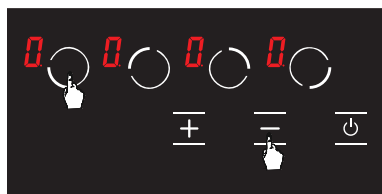

Figure 18
2. Press front left hob selection key (●) and minus key (—) simultaneously. (see Fig. 18) You shall hear a short warning signal at this time. Then, remove your fingers from the stove control panel.